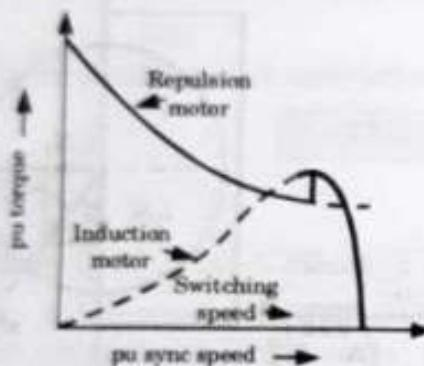

Fig. 5.13.1
- Torque-speed characteristics : The torque-speed characteristics of repulsion motor as shown in Fig. 5.13.1.